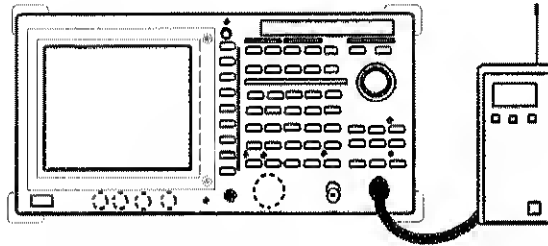

Figure 2-95 Setup Measuring Adjacent Channel Leakage Power
1. Connect the unit under test as shown in Figure 2-95.